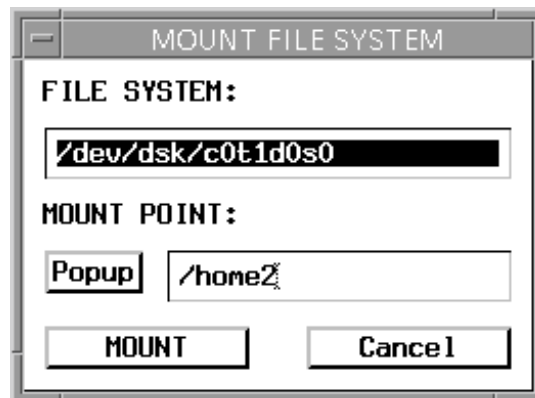

Figure 14. MOUNT FILE SYSTEM Window
- STEP 2: **Click on the MOUNT button.** The MOUNT FILE SYSTEM window appears (Figure 14).
STEP 1: Click on the MOUNT NEW button. The MOUNT FILE SYSTEM window appears (Figure 14).